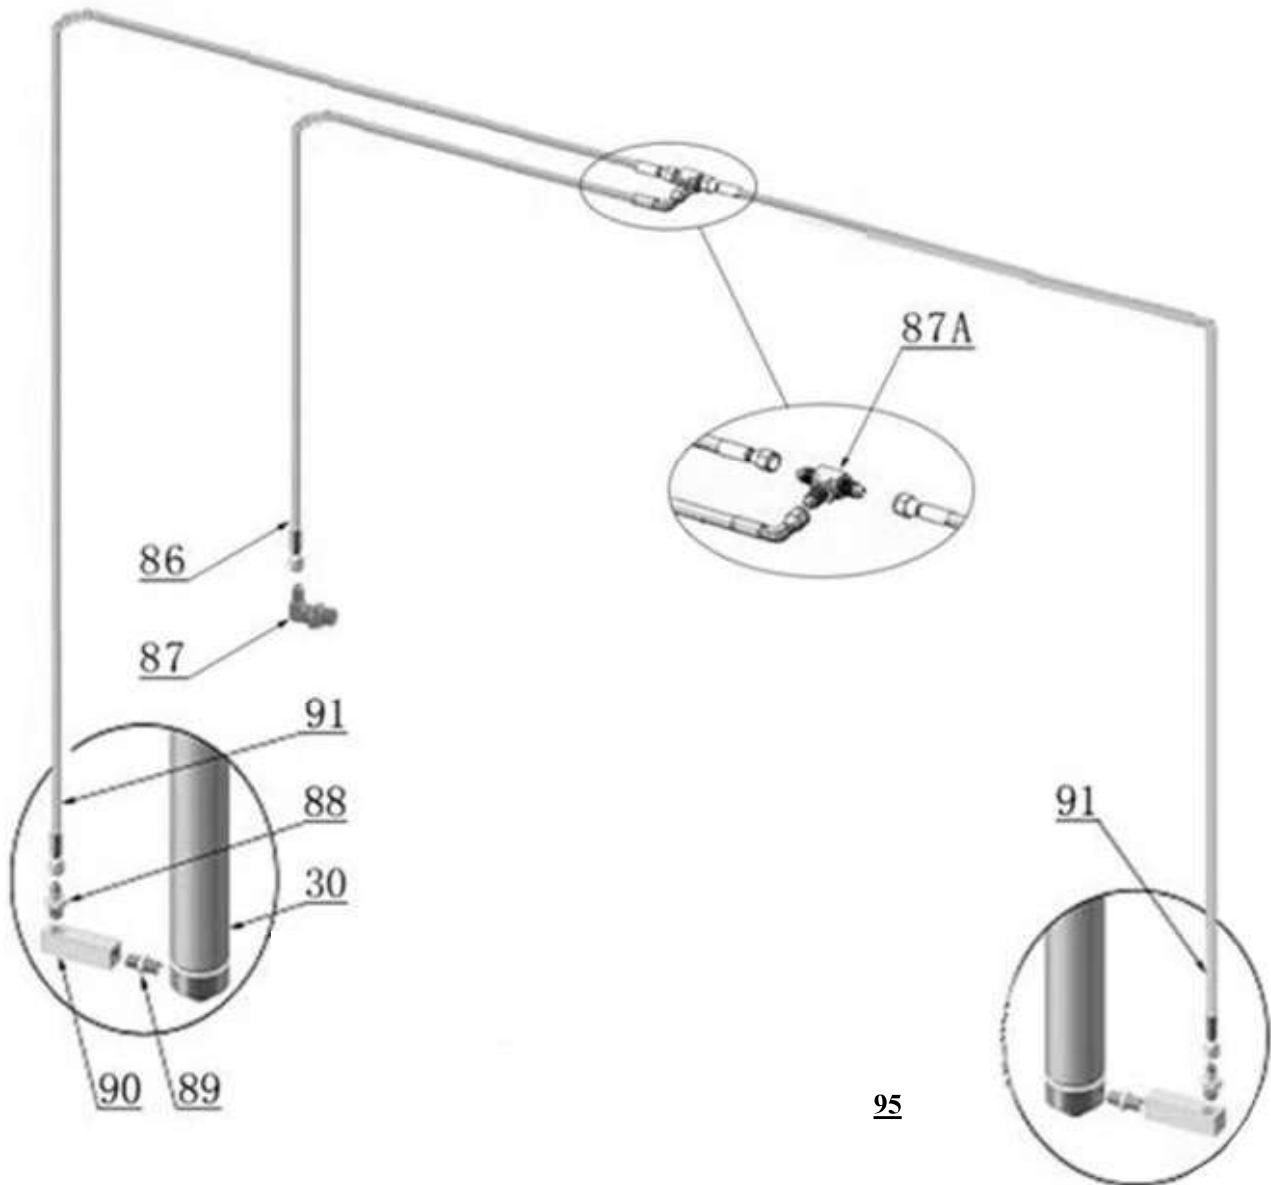

Fig.26
L. Install hydraulic power unit and oil hose assy. (See Fig.26).